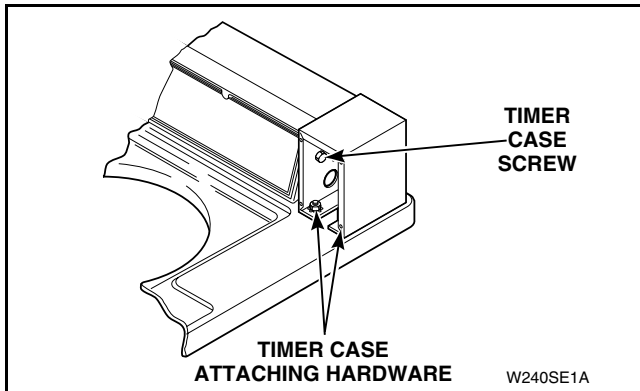

Figure 25
- (5) Remove cap screw, lockwashers and nut holding timer case to control hood. Refer to *Figure 25*.